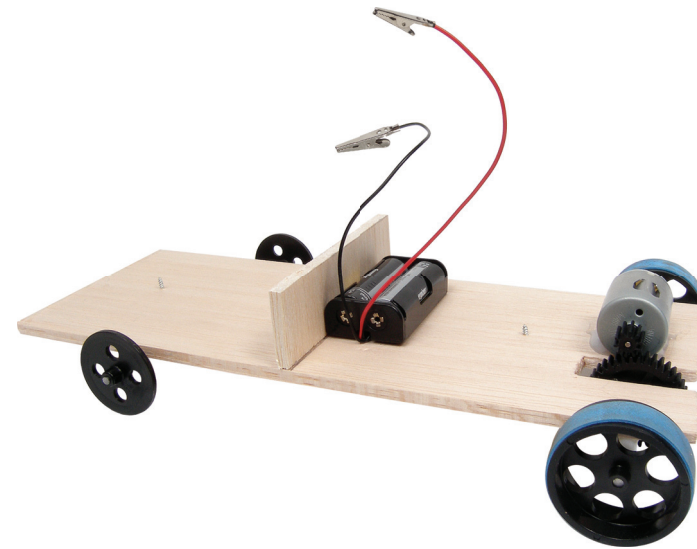

Figure 5
5. Position the battery holder behind the panel support member (Figure 5). Make sure the leads are on the same side of the chassis as the motor terminals.